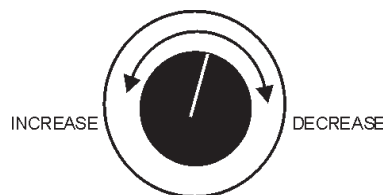

**Figure 51. Frequency Meter (Hz)**
10. The generator's frequency meter (Figure 51) displays the 60 cycle output frequency in **HERTZ**.